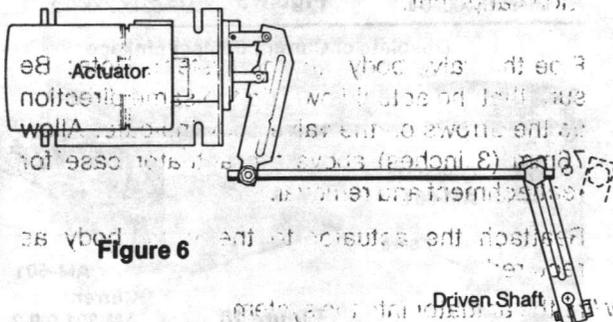

Figure 6
4. Finish the damper actuator mechanical hook-up. After wiring, assemble the straight connector, linkrod, balljoint connector, and damper shaft crank arm as shown (Figure 6).
See Figures 6 and 7. The permanently sealed oil filled case (1) contains a movable hydraulic piston assembly (2) and an electric pump (3) for the hydraulic system. The pump generates a fluid pressure which is transmitted to the top of the piston. Opposing the hydraulic force is the spring of the valve or damper linkage.